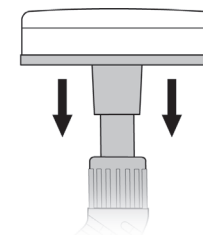

FIGURE 7
1. Place Scrub Tool over tip of Jet Nozzle, and firmly press it on to Jet Nozzle as far as possible (FIGURE 7). This will help to prevent steam leakage.